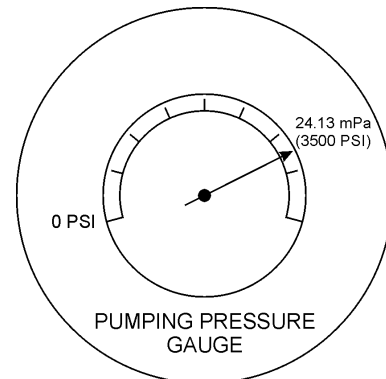

Figure 52. Pumping Pressure Gauge
6. On the control box, turn the **pump control switch** (Figure 22) and the **test switch** (Figure 31) to the “ON” position. Using an allen wrench, adjust the **main relief valve** (Figure 45) to **24.13 mPa (3,500 PSI)**. The reading can be taken from the **pumping pressure gauge** (Figure 52).